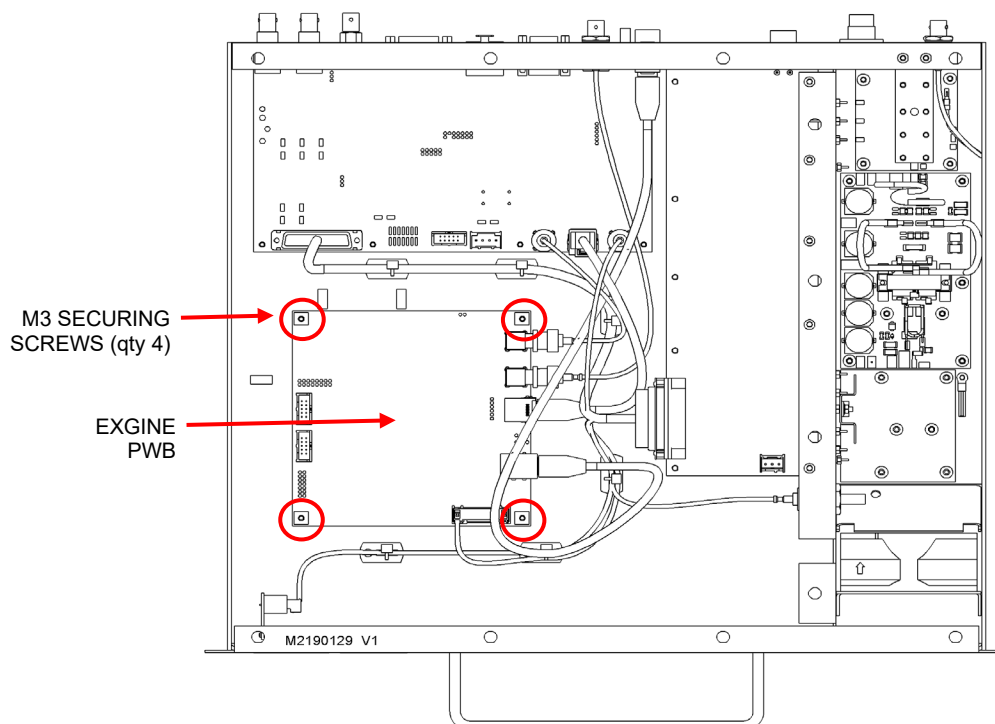

Figure 2: Exciter Top View, showing Exgine PWB (NAE107*/01 variations only)
- Locate the Exgine PWB (A8) using Figure 2 as a guide.
- Remove and retain the four (4) sets of M3 hardware that secure the Exgine PWB to the chassis, noting that extra securing hardware is provided in the Field Modification kit.